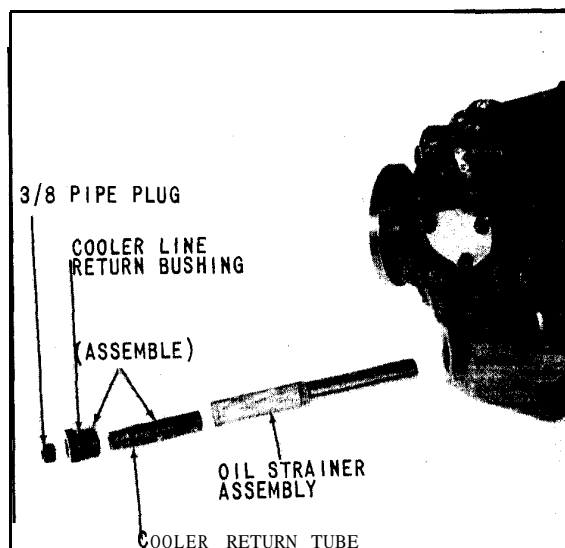
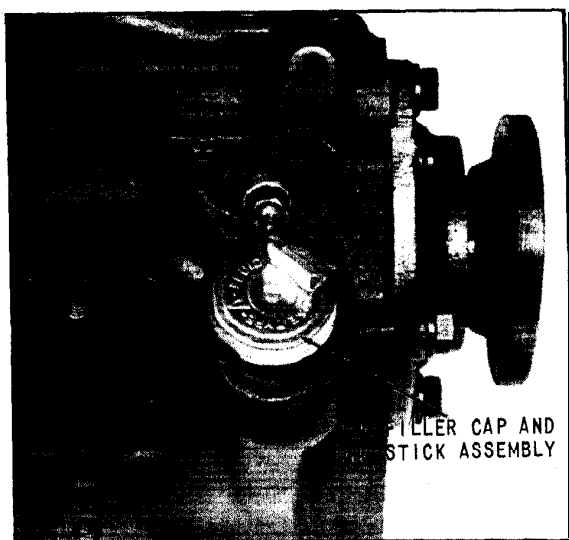
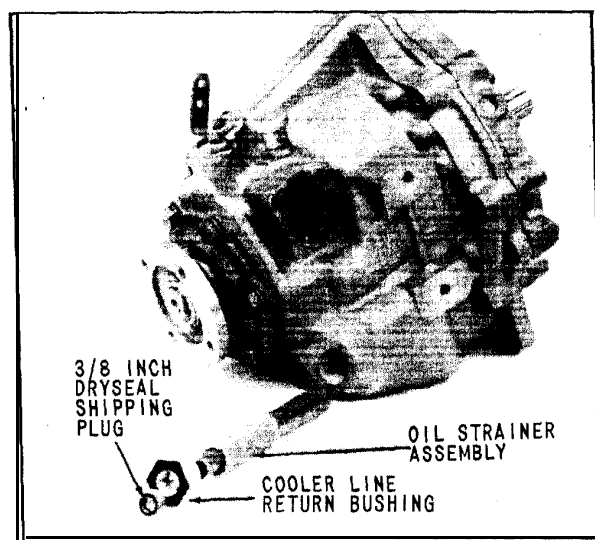

Fig. 77 Install Oil Strainer & Cooler Return Tube & Bushing Assembly
Fig. 85 Installation of Oil Filler Cap and Dipstick Assembly
Fig. 86 Installation of Oil Strainer Assembly and Cooler Line Return Bushing
77. Assemble the oil strainer assembly, cooler line return bushing and cooler return tube assembly in the order shown in (Fig. 77). The screen end of the oil strainer assembly should be approximately 1/2 inch below the face of the case when the assembly is correctly installed.
1. Place oil filler cap and dipstick assembly in the oil filler tube provided on rear left side of transmission case, (Fig. 85). Push down on filler cap and dipstick until assembly "bottoms" on tube, then turn cap to right as far as cap screw permits.
2. Assemble the oil strainer assembly (71B-A98) and cooler line return bushing (4885A) in the order shown in (Fig. 86). The small end of oil strainer assembly should protrude out of tapped hole in case approximately 1/16 inch when installed to full depth.
NOTE: Bushing (4885B) illustrated in (Fig. 77) as used with present oil strainer assembly, may be used with the old oil strainer assembly (71B-A98) shown in (Fig. 85). On the other hand, the old bushing (4885A) is not threaded the entire length of its internal thread. Therefore, it cannot be assembled with the cooler return tube (71C-84 shown in (Fig. 77)). Either complete assembly of parts, illustrated in (Fig. 77) or (Fig. 86), can be used as they are interchangeable.